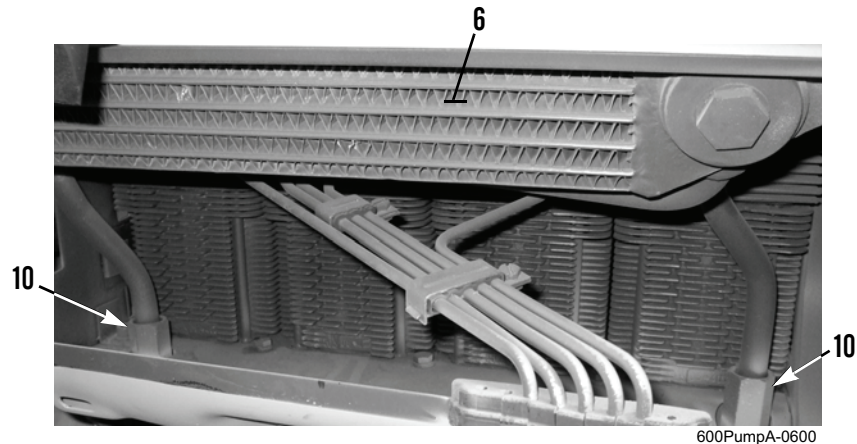

Figure 6. Oil Cooler and Union Screws.
3. Position oil cooler (Figure 6, Item 6) on engine block and tighten two union screws (Figure 6, Item 10).